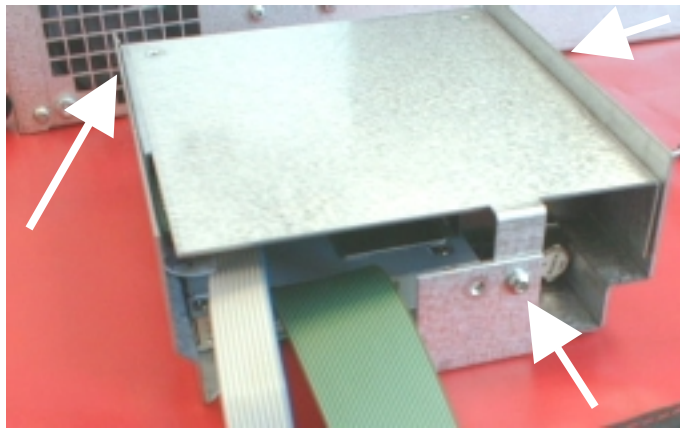

Fig. 6. 1-15. Screws fixing the ECG module
1. Unscrew the three screws (M3×6) which holds the ECG module fixed to the floppy disk drive, see Fig. 6. 1-15.